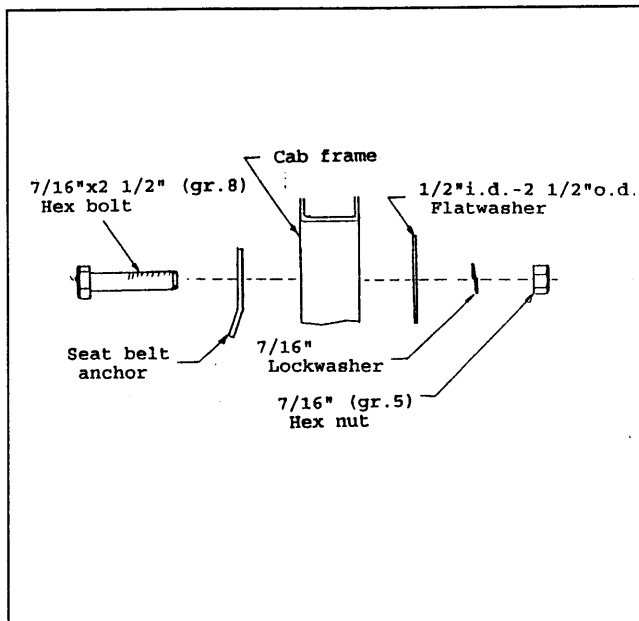

Figure 3
6. Locate the 15/32"dia. hole in the left, rear, inside frame member of the ROPS. Take one of the seat belt (3) anchors and position it against the inside of the tube as shown in figure 3. Bolt the anchor to the frame using the 7/16"x2 1/2" hex bolt, hex nut, and lockwasher provided.